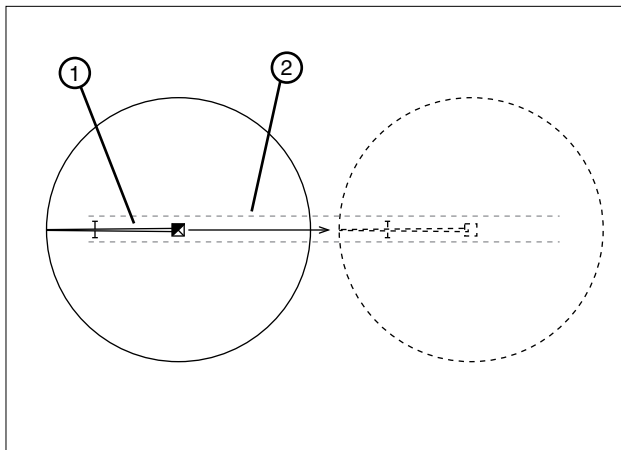

Figure 30-1 1. Machine
1. Position the machine in the tow lane. See figure 30-1.